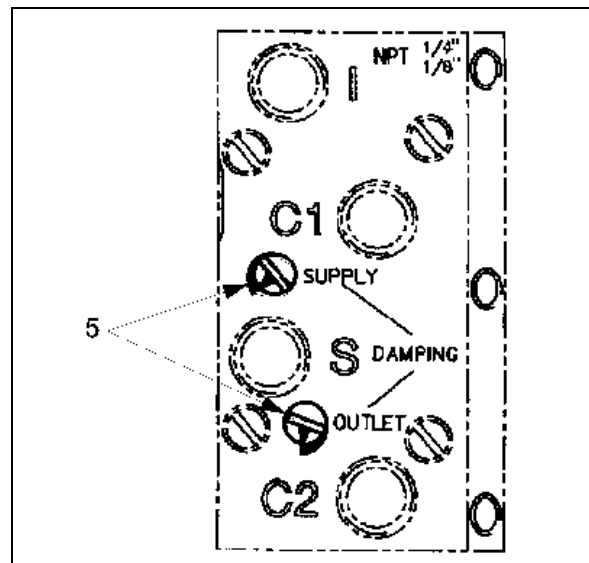

Figure 8 – Speed Dampers
The dampers (5) located on the connecting block provide a simple means of adjusting the actuator travel speed. See Figure 8.